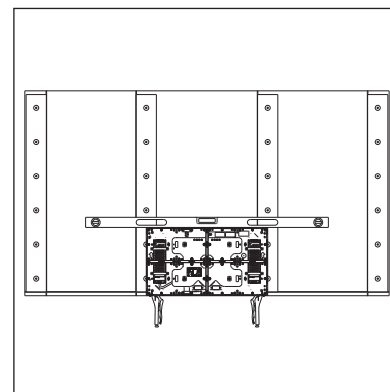

Figure 13: Mark Mounting Holes in First Panel
3. Mark the mounting holes in the panel for pre-drilling. Refer to **Figure 13**.